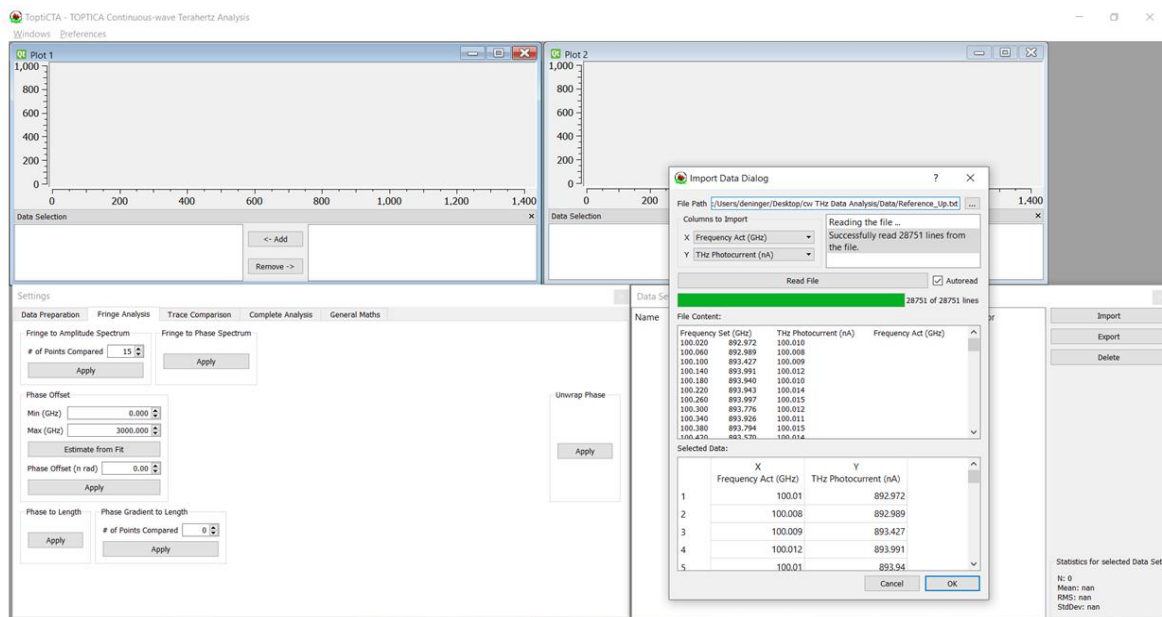

Fig. 5: Selecting the reference file.
1. Select the reference measurement: Click **Import** in the Data Selection Window to open an import dialogue. Navigate to the correct folder, pick the raw-data file and confirm with **OK** (Fig. 5). The name of the dataset and its type (“Fringe”) will be displayed in the Data Selection Window.